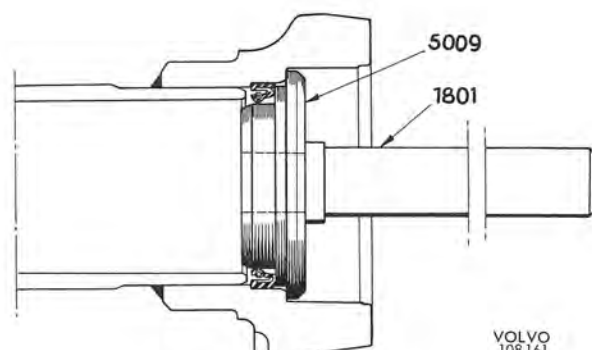

Fig. 4-140. Fitting the inner sealing ring
7. Drive in the inner sealing ring with drift 5009 and handle 1801. The drift is so designed that it will install the ring in its correct position, see Fig. 4-140.